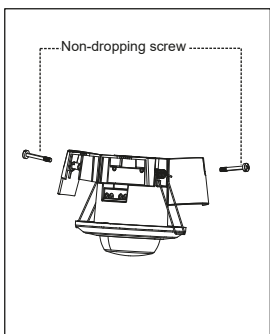
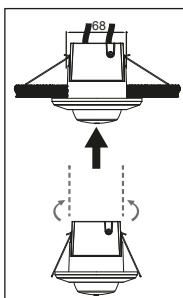

Figure 10
Figure 11
2. Please refer to illustration of Fig. 11 for correct installation, and fix the flush mount spring clips to the detector with 2pcs non-dropping screws (Fig. 10).
3. Refer to wiring diagrams for correct wiring connection (Fig. 13) and after ETS programming tighten the flush mount spring clips with 2pcs non-dropping screws (Fig. 10).
4. Raise the two spring clips, and insert the detector into the drilled hole on ceiling (Fig. 11)